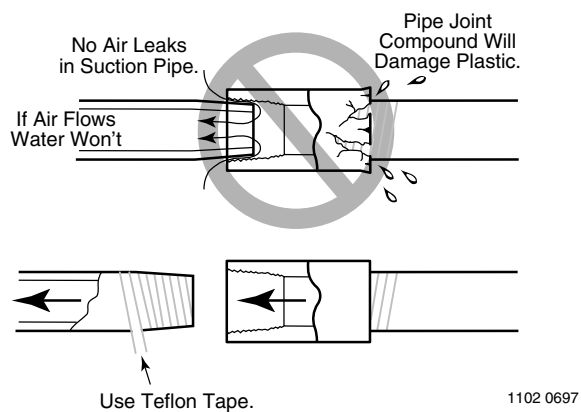

Figure 1 – Suction pipe must not leak
7. No air leaks in suction pipe. Use Teflon tape or Plasto-Joint Stik to seal pipe joints. Do not use pipe joint compound. (Figure 1).